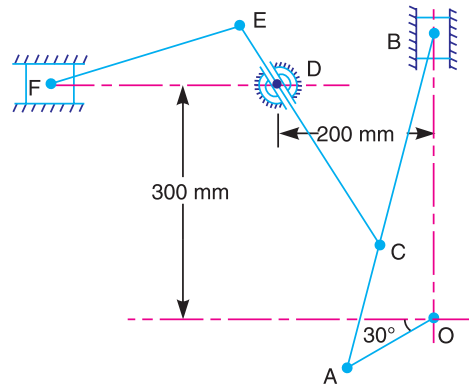

Fig. 7.37
7. Fig. 7.37 shows a mechanism in which the crank OA , 100 mm long rotates clockwise about O at 130 r.p.m. The connecting rod AB is 400 mm long. The rod CE , 350 mm long, is attached to AB at C , 150 mm from A . This rod slides in a slot in a trunnion at D . The end E is connected by a link EF , 300 mm long, to the horizontally moving slider F .